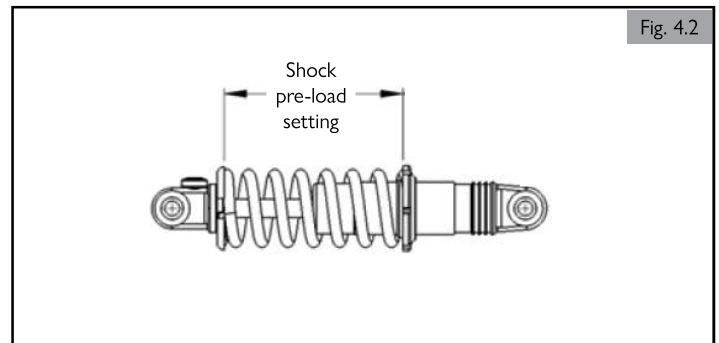

Fig. 4.2
4.8 Suspension Spring Collar Adjustment (Fig. 4.2)